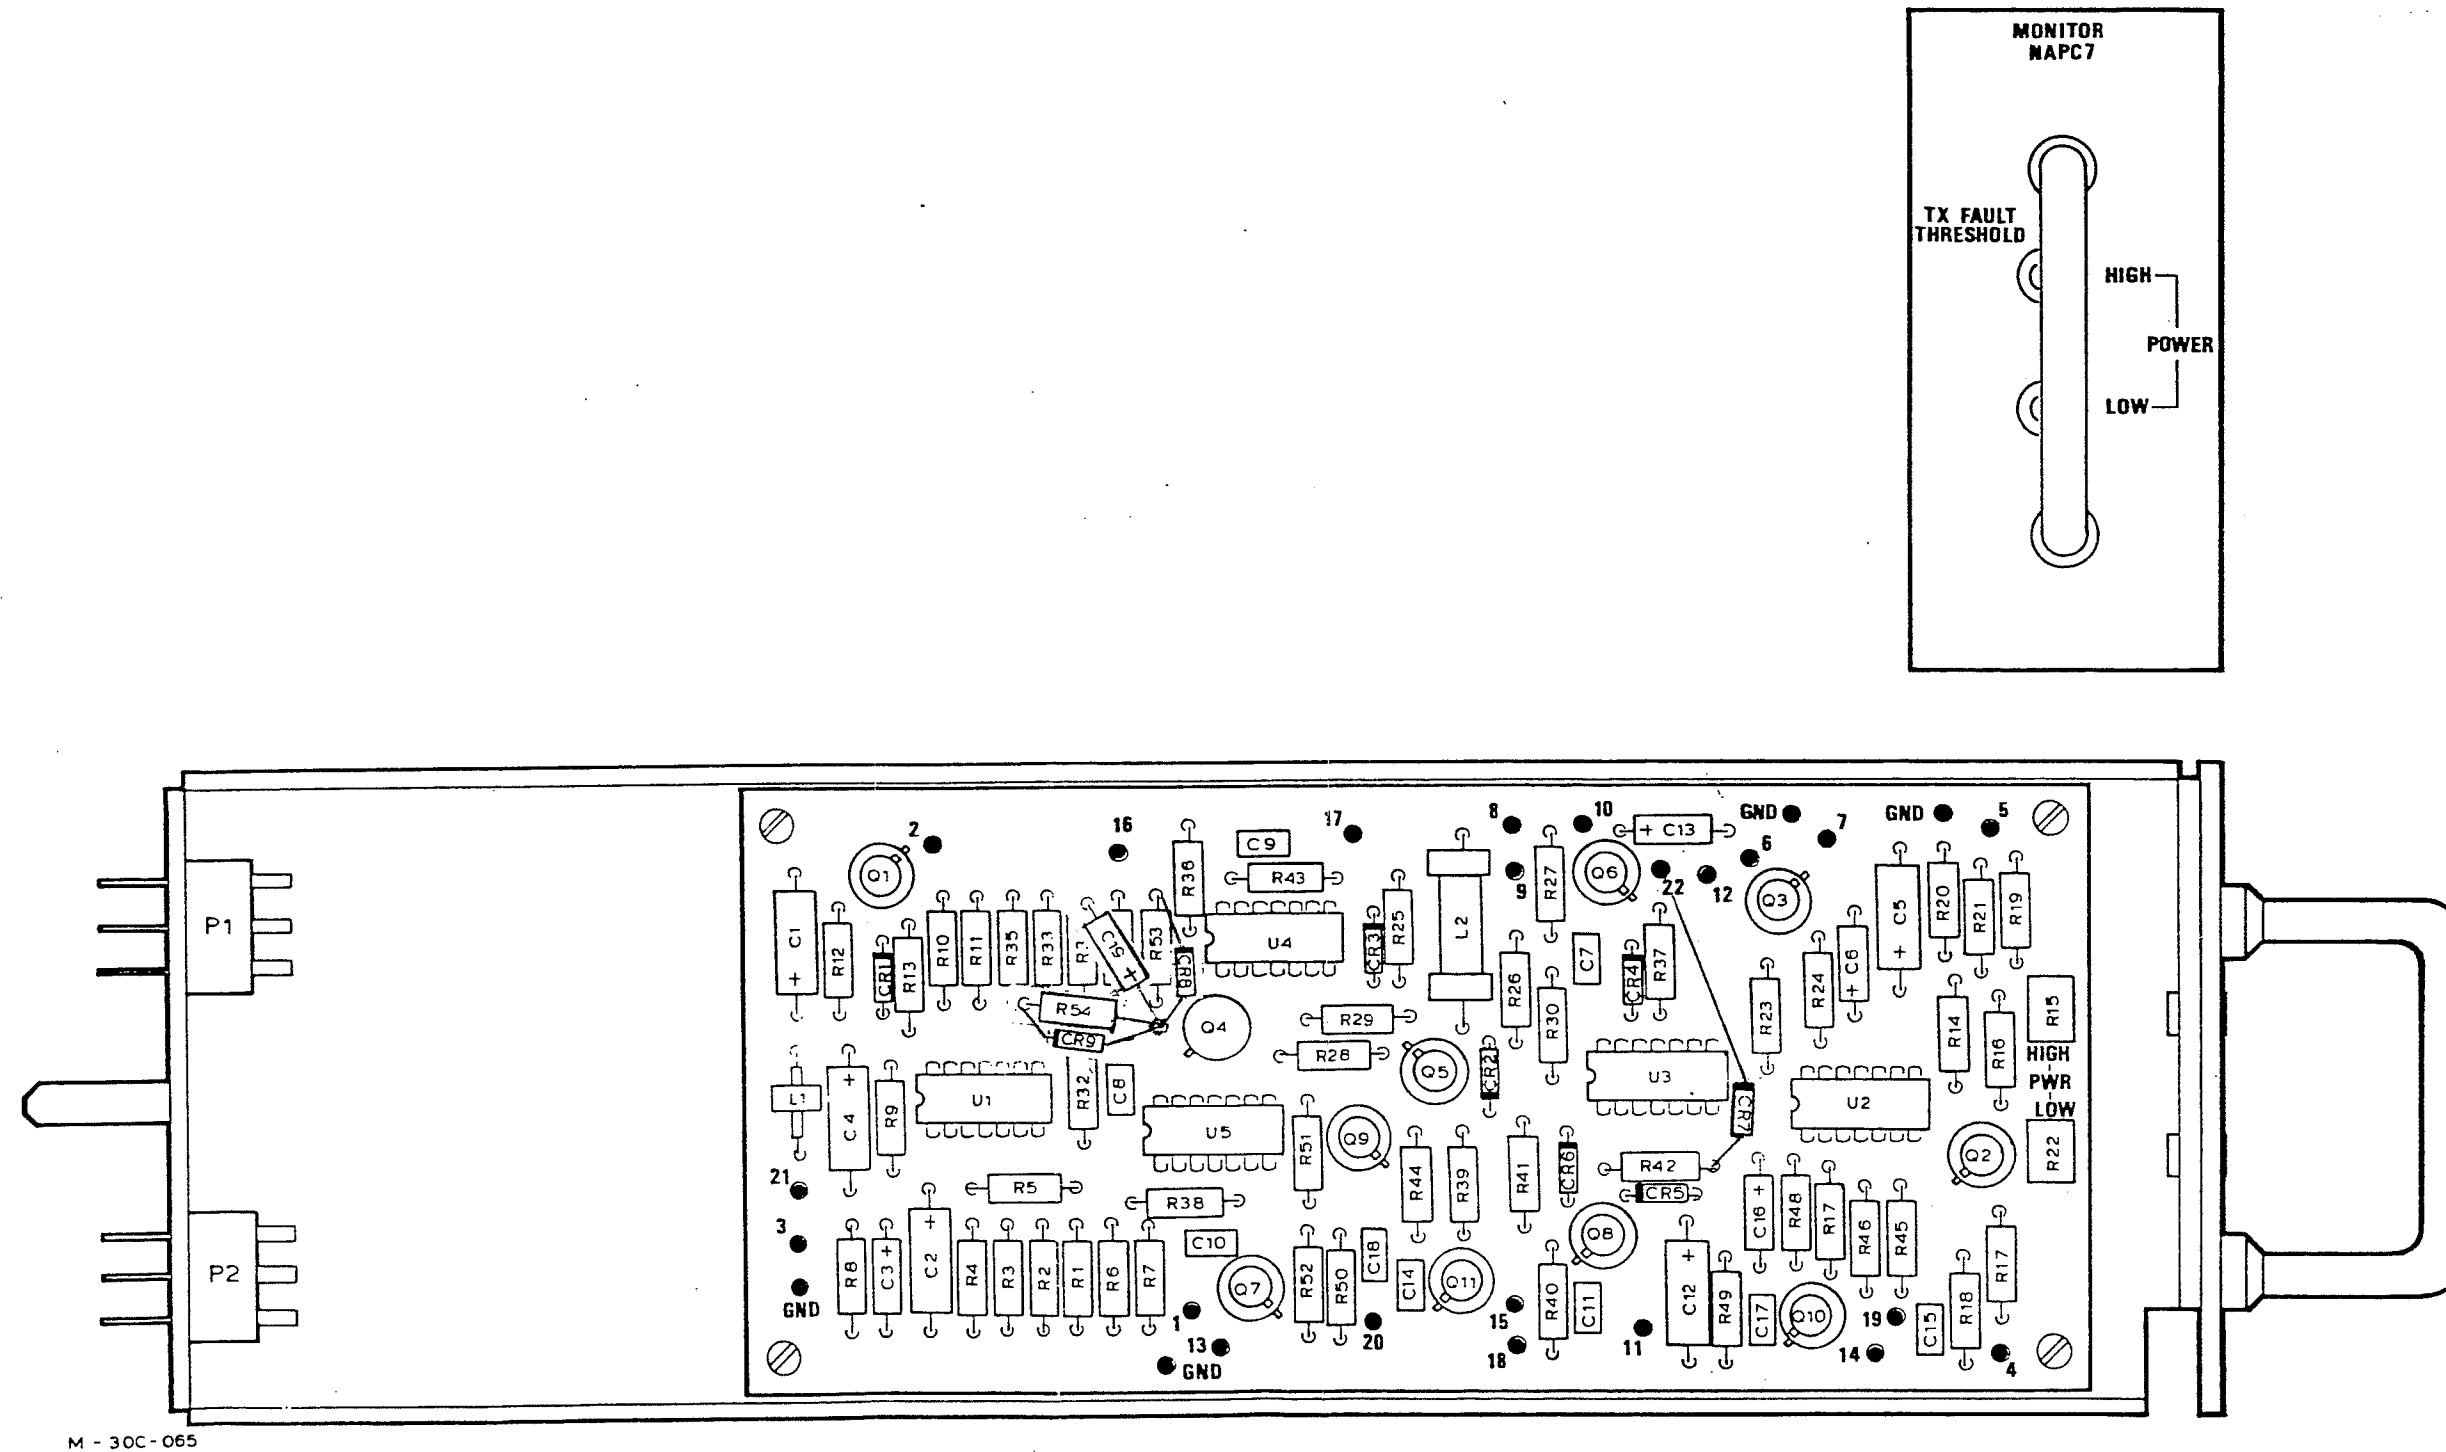

Figure FO-1 Assembly Detail - NAPC7 Monitor Module
2.1 The following hardware changes are to be completed to the printed circuit board assembly. Refer to figure FO-1 for assembly detail.